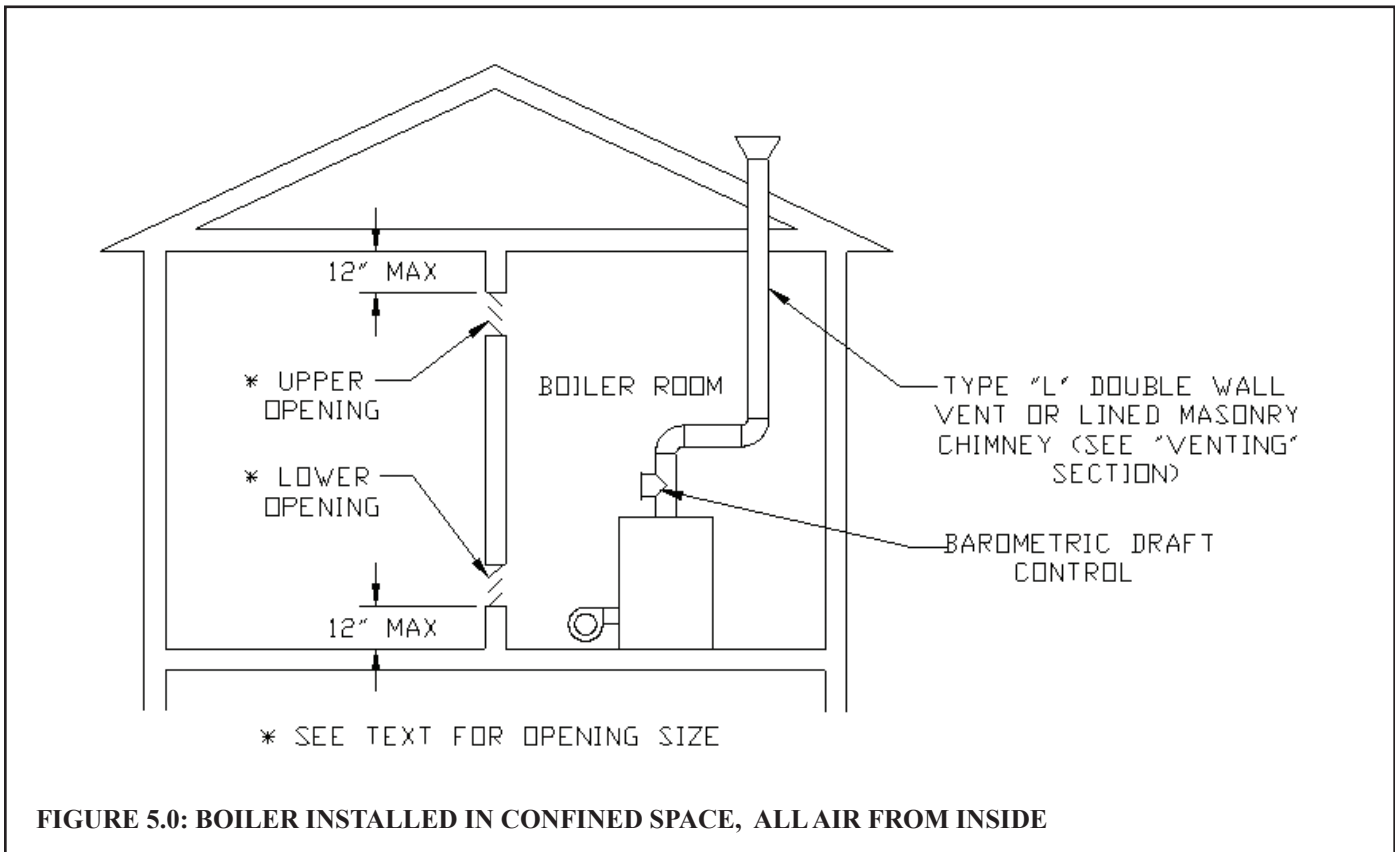

FIGURE 5.0: BOILER INSTALLED IN CONFINED SPACE, ALL AIR FROM INSIDE
- 3) Confined Space - Provide two openings into the boiler room, one near the floor and one near the ceiling. The top edge of the upper opening must be within 12" of the ceiling and the bottom edge of the lower opening must be within 12" of the floor (Figure 5.0).